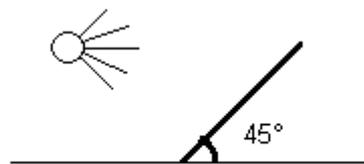

Figure 11: Tilt angle for solar panel (here 45°)
- Angle: The optimum tilt angle (angle between the horizontal plane and the solar panel, (see **Figure 11**) depends on the latitude of the site. If the datalogger is to be used all the year round, we recommend a tilt angle for optimum winter performance :